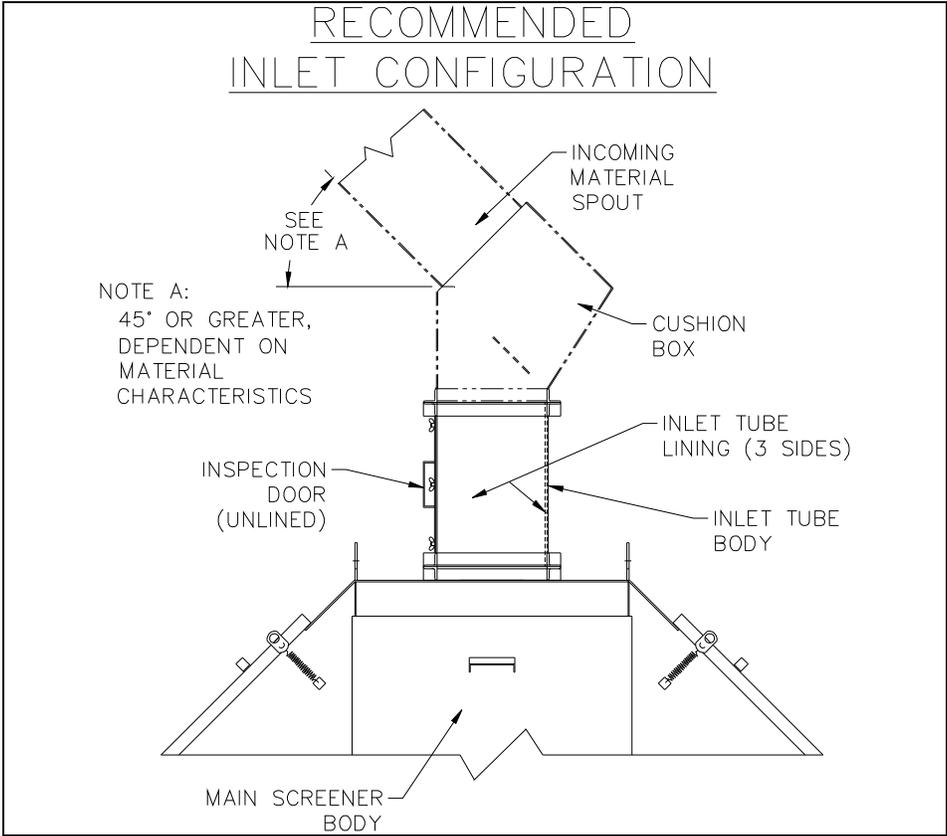

Figure 3-3A, Recommended Inlet Configuration
3.3.2 Screener Inlet Arrangement; (See Figure 3-3A, 3-3B, and 3-3C)